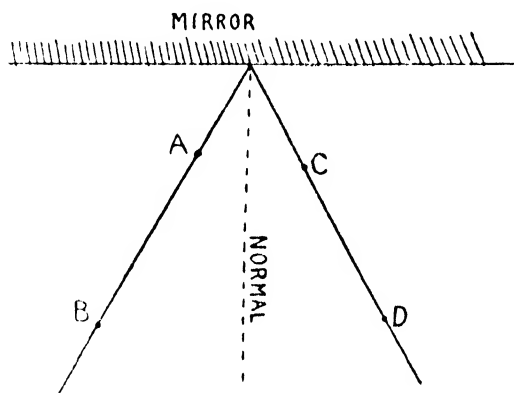

FIG. 88.
**EXERCISE 144.**—Pin a sheet of drawing-paper on a half imperial board. Rule a straight line centrally across the width of the paper, and place a strip of mirror glass upright, with the silver surface over the line drawn. Usually a block of wood is glued to the back of the mirror to keep it upright, or an upright pin can be placed behind it, with two others in front at the extreme ends of the strip. Rule a line at right-angles, using a set square, from the centre of the bottom edge of the mirror about 6 inches long. This line is a *normal* to the mirror, and any line drawn at right-angles to a mirror surface is a normal (see Fig. 88).
Now remove all the pins and place one pin upright, touching the glass on the normal. It may be necessary to shift the mirror strip, which can then be replaced over the original line drawn, and touching the pin. Place two pins A and B in a line with the first, in the position shown in Fig. 88. Remove the pin which is touching the glass, and place two other pins C and D, as shown in Fig. 88, in a line with the *images* of A and B. Now take away the pins and join up the pinholes left by A and B, continuing the line to the